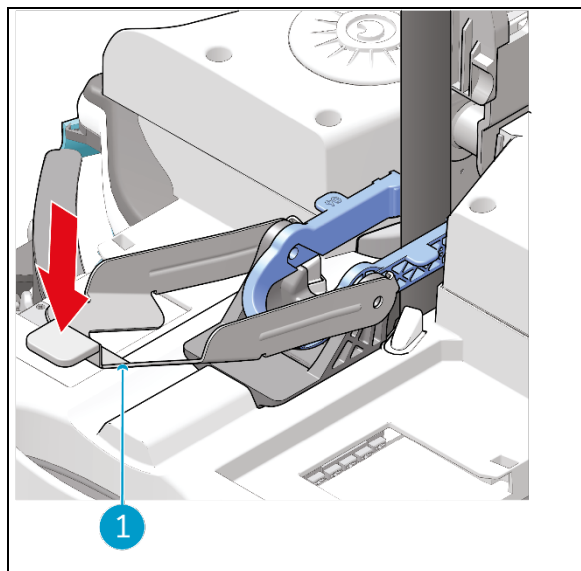

Figure 22
1. Push the bracket of the park support (Figure 22, pos 1) down to bring the drive support up (Figure 22, pos 2).
5. Push the bracket of the park support (Figure 22, pos 1) down to bring the drive support up (Figure 22, pos 2).